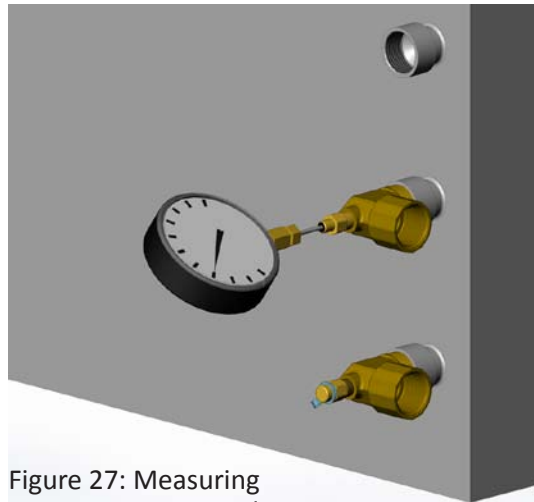

Figure 27: Measuring pressure drop
1. Measure the pressure drop across the heat pump’s heat exchanger via the P/T ports located at the water connections of the unit (Figure 27). Use a single large dial face pressure gauge to allow for more precise measurement.